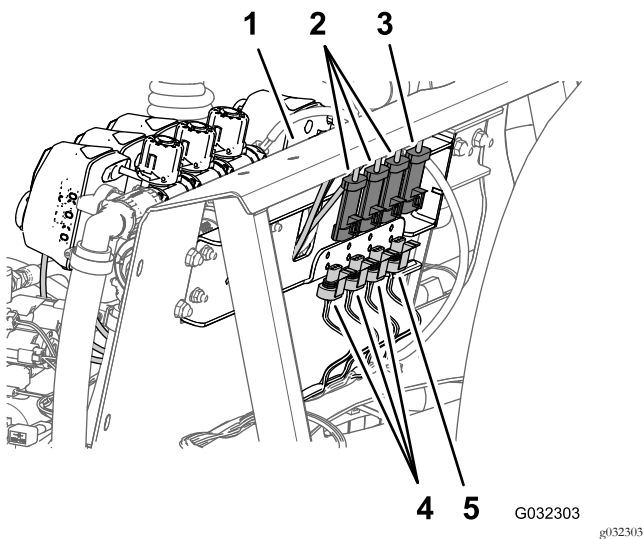

Figure 37
2. At the back of the manifold mount, disconnect the 3-socket connector from the agitation valve and the 3-socket connectors from the 3 boom-section valves (Figure 37).